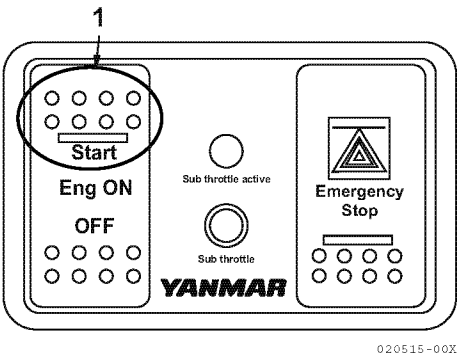

Figure 3
- 5. Press the Eng ON (1, **Figure 3**) switch and the following changes occur:
To start the engine, press Start (upper half) of Eng ON switch (1, **Figure 3**).